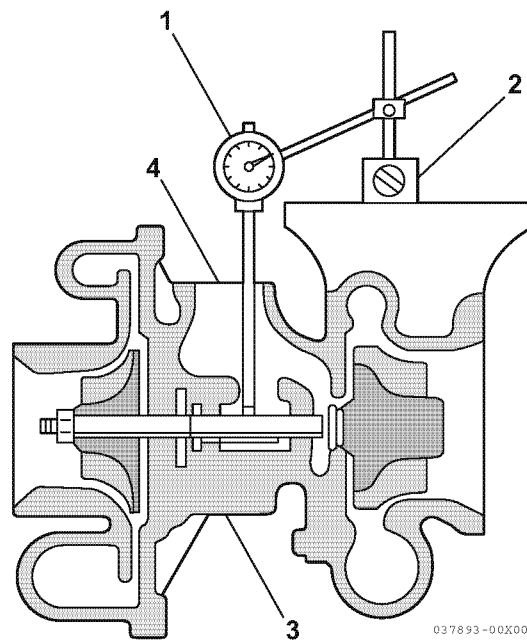

Figure 10-5
1. Set up a dial indicator as shown (**Figure 10-5**).